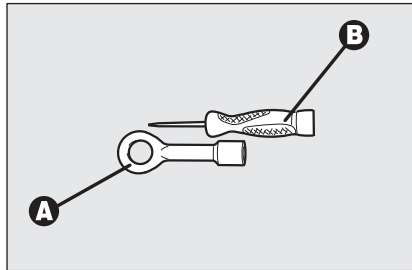
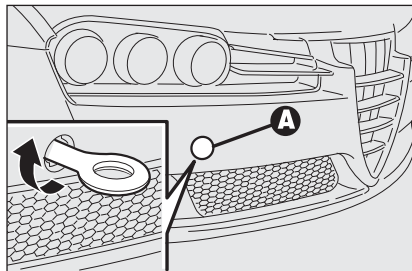

fig. 64
fig. 65
- take the tow hook **A-fig. 64** from the Fix&Go automatic container.
- remove the snap-fitted plug **A-fig. 65** from the front bumper. If using the flat blade screwdriver **B-fig. 64** provided as standard, protect its tip with a soft cloth to prevent damaging the car.